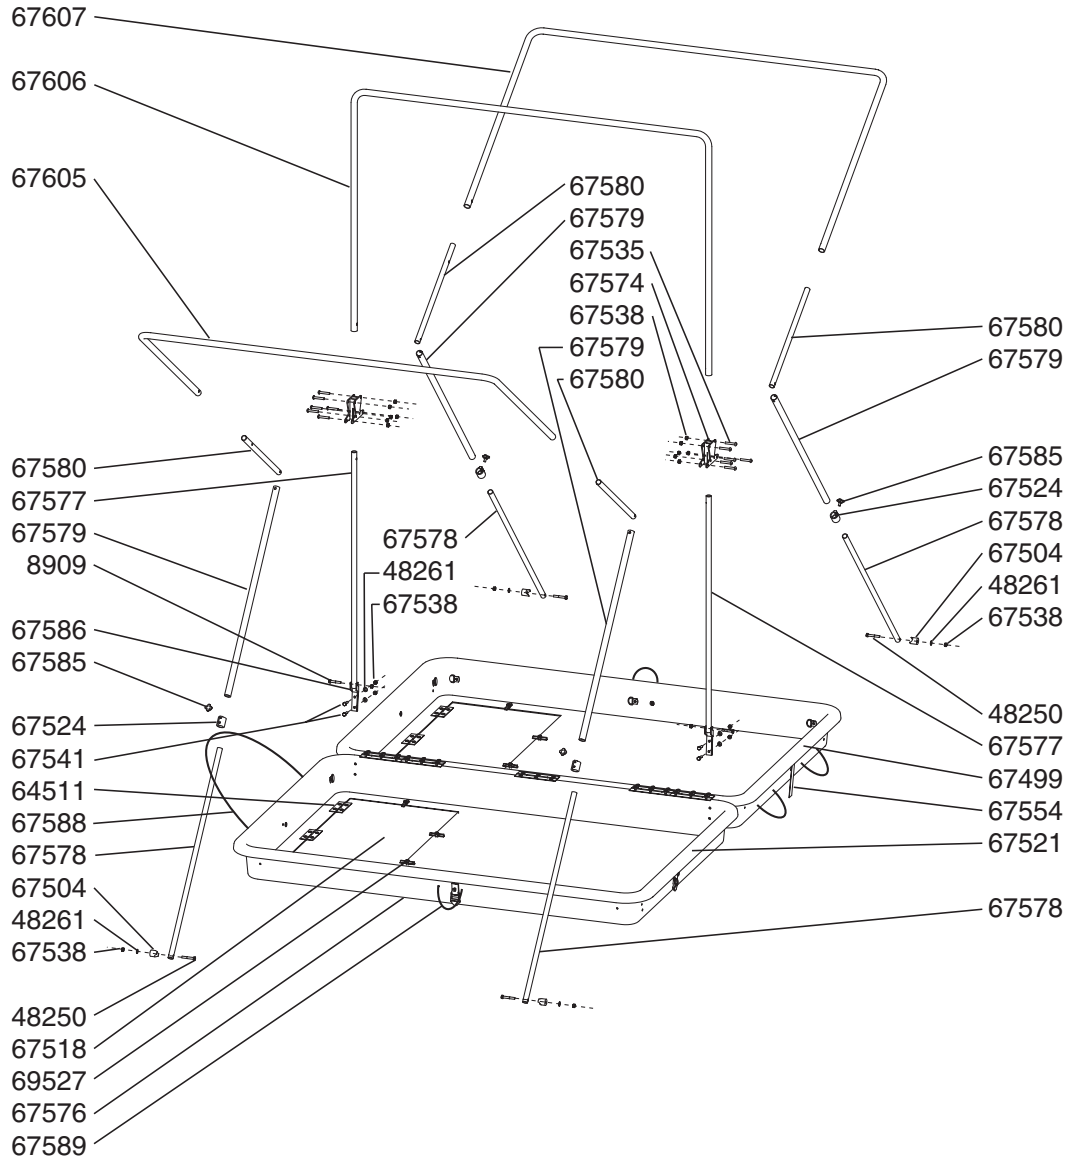

Figure 5
12. Step into each corner to extend poles and tighten thumbscrews. See Figure 5. Center roof support pole should always be in the vertical position. Adjust thumbscrews as needed.